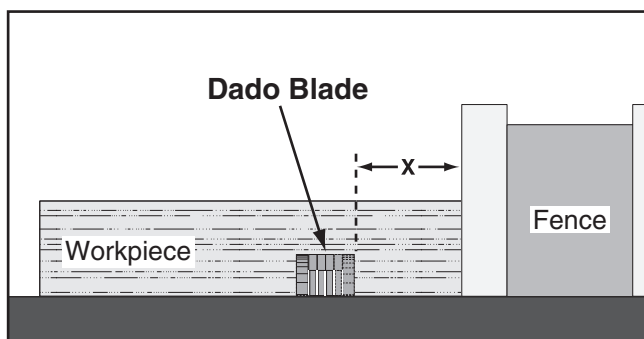

Figure 77. Example of a dado cut with a dado blade.
Commonly used in furniture joinery, a dado is a straight channel cut in the face of the workpiece. Dadoes can be cut using either a dedicated dado blade or a standard saw blade. **Figure 77** shows a cutaway view of a dado cut being made with a dado blade.
2. Adjust the distance between the fence and the inside edge of the blade, as shown in **Figure 77**, to dado the length of a workpiece.